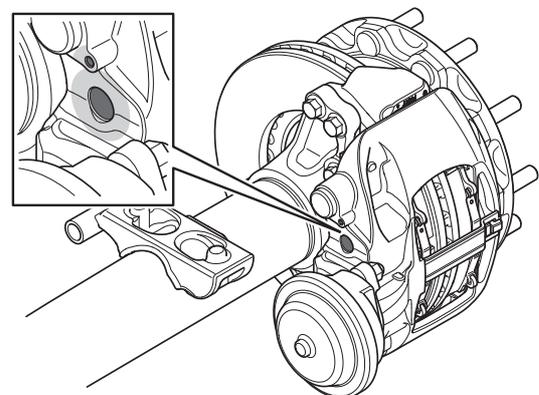

Figure 99. PWS/PWIS cleaning position
1. Clean around the position of the sensor with a cloth (see figure 99).